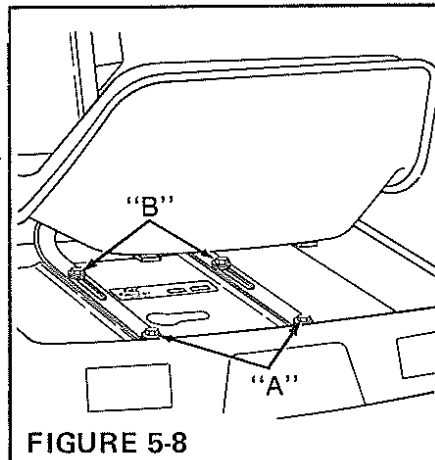

FIGURE 5-8
1. To adjust seat, remove the two screws (A) Figure 5-8. Loosen the two front capscrews to move seat position forward or backward. Retighten capscrews and reinforcement screws to secure seat in position.